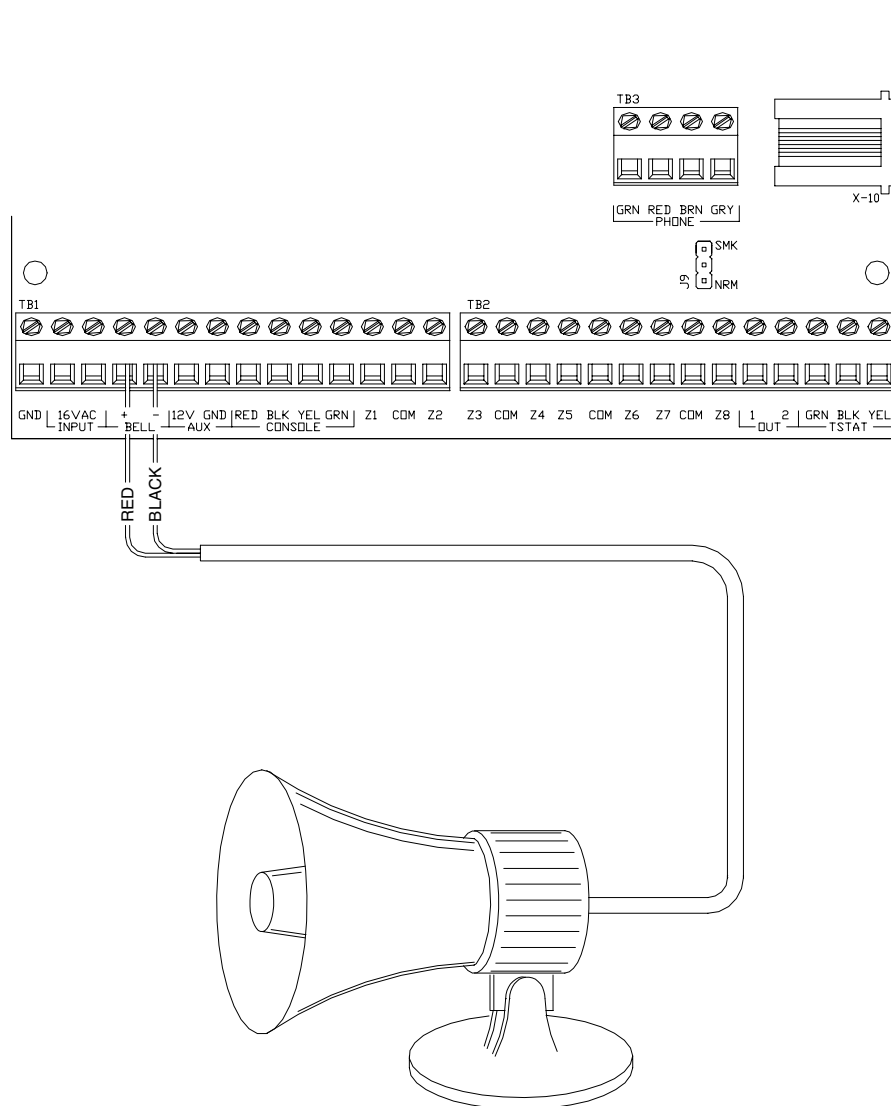

FIGURE 7 - BELL CONNECTIONS
4. Refer to **FIGURE 7 (BELL CONNECTION)** for connections.